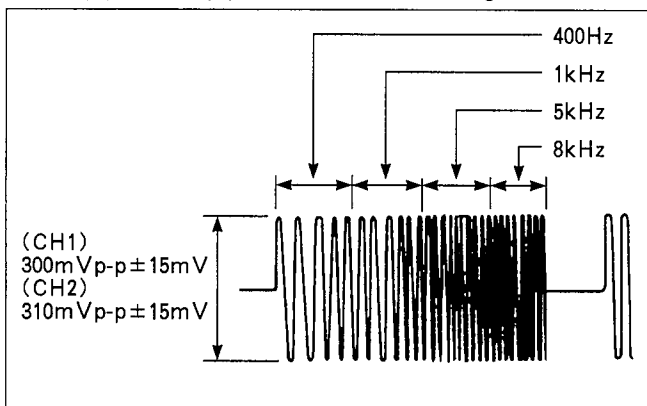

Figure E49
1. Connect a scope to TP40005 (CH1) and TP40007 (CH2), and adjust VR40003 (CH1) and VR40008 (CH2) so that the levels become 300mVp-p ± 15mVp-p (CH1) and 310mVp-p ± 15mVp-p (CH2) as shown in Figure E49.